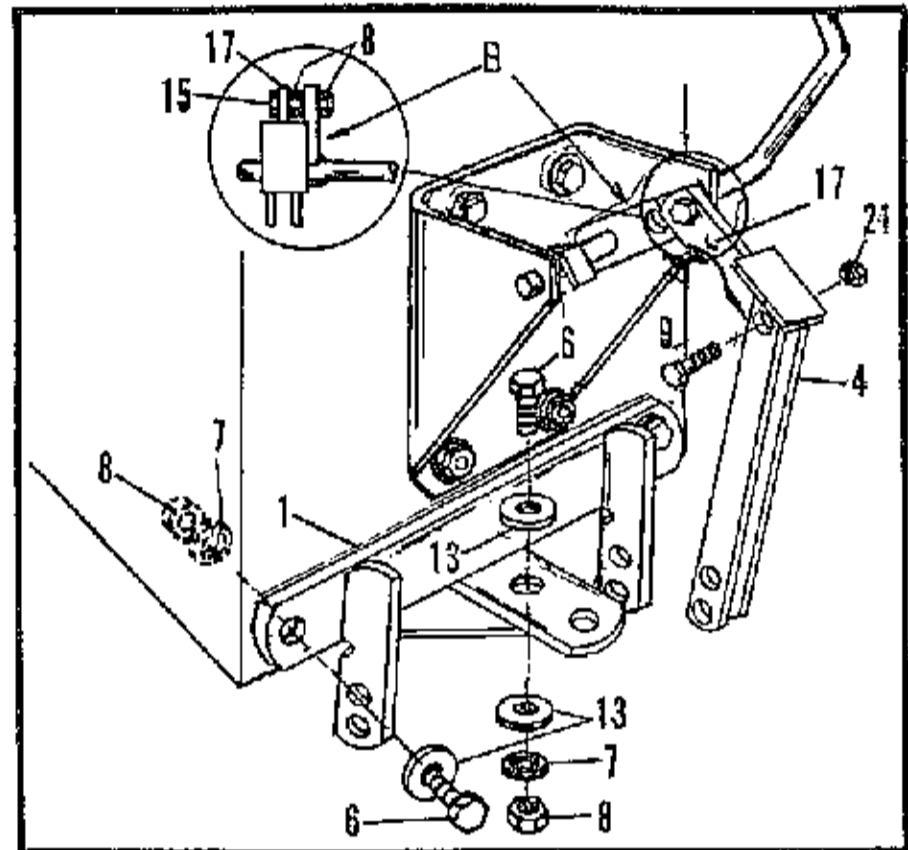

Fig. 3
Refer to Fig. 3
- Refer to Fig. 3.
- Attach Short Strap (17) to Lifting Strap on Lift Handle in INNER hole.